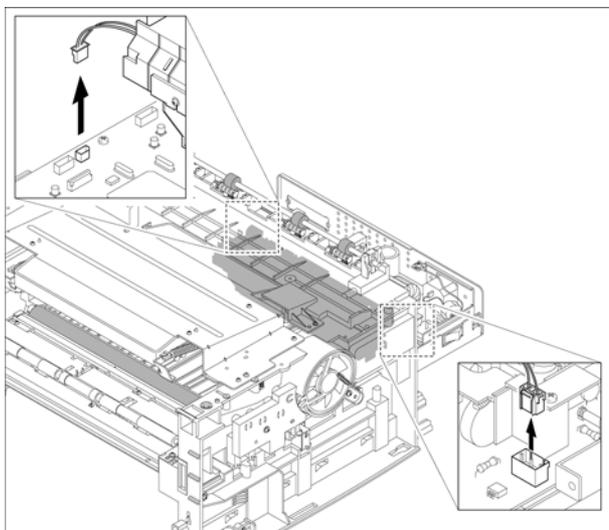

Figure 1
2. Disconnect CON 1 from the SMPS/HVPS and CN 12 from the Main PBA, Figure 1.